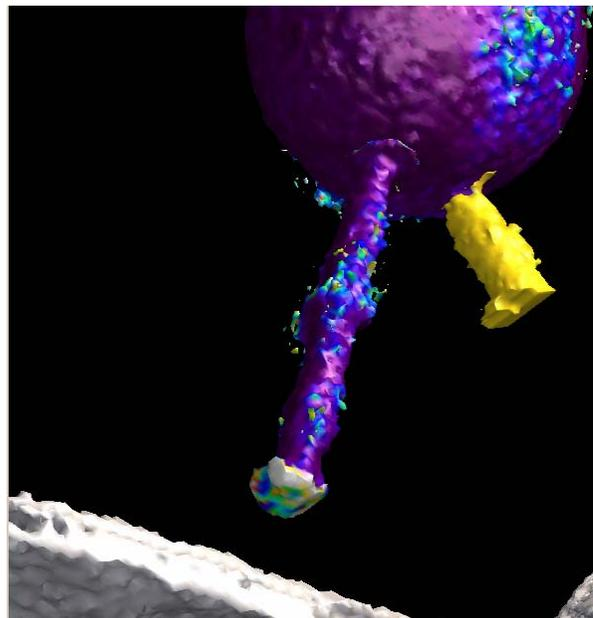

Figure 26: Marking bad values
11. Using the mouse controls in the 3D graphics window, rotate the models so that the tip of “Filament 1” distal to the vesicle is visible. This tip will have several white vertices (see Figure 26). This region of the model cuts into another synthetic vesicle, so the gradients in this region are inverted, creating “bad values” by definition.